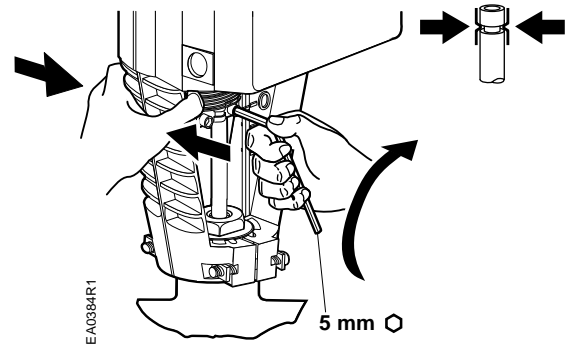

**Figure 16. SKD Actuator.**
2. Rotate the manual override knob three turns. See *Figure 16*.